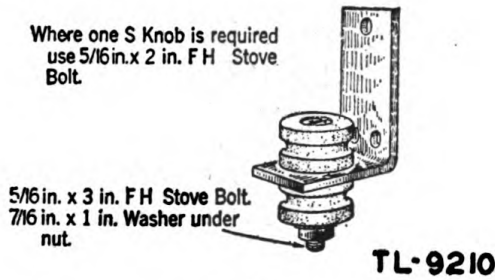

Figure 15. "S" knobs installed on house bracket.
(14) Wires should be laid in, not drawn through, the drive rings.
(15) Pull the wires tight, to avoid unsightly sag, but not tight enough to cause undue strain on the wires. When more than one pair of wires is in the rings, allow the same amount of sag in all wires, to present a neat appearance.
d. **EQUIPPING HOUSE BRACKET WITH "S" KNOBS.** Equip house bracket with "S" knob as shown in figure 15.